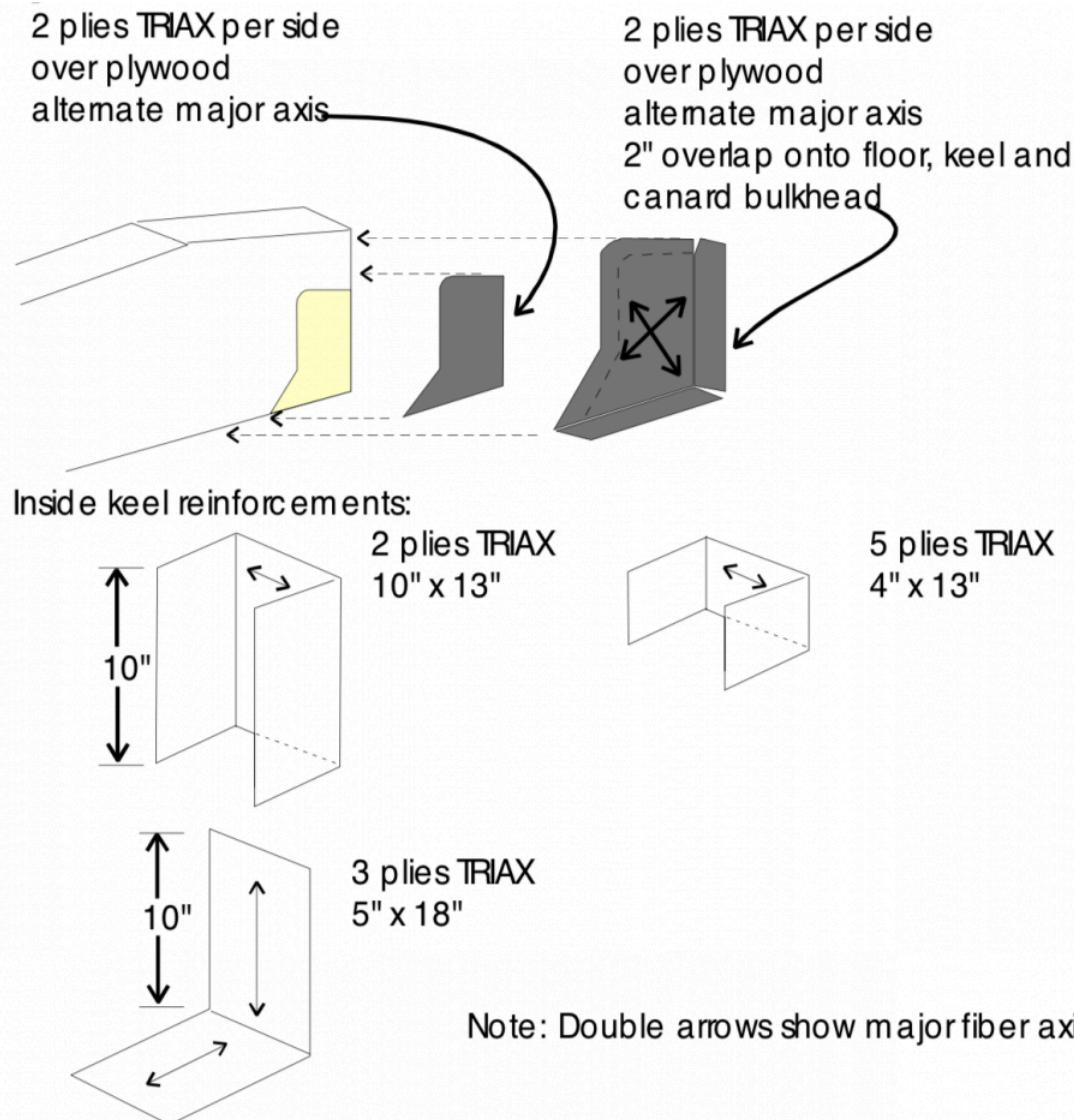

Figure 6-21. Keel Stiffening Lay-Ups
- ___ Install the **TRIAX** stiffeners as shown in the Figure 6-21.